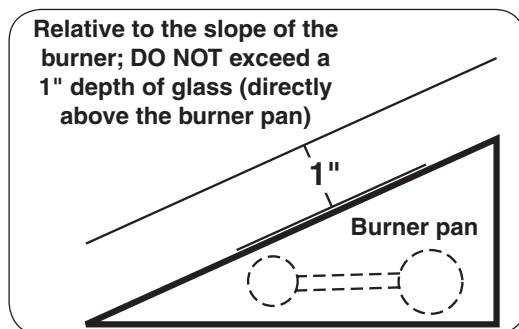
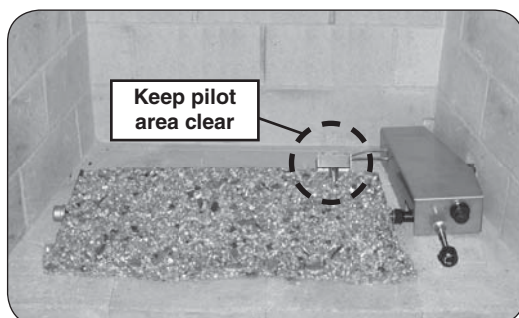

Fig. 9-4
Fig. 9-5
1. Pour the glass / gems directly on top of the granules and screen so that the burner pan is covered completely and evenly. Relative to the slope of the burner; DO NOT exceed a 1" depth of glass (directly above the burner pan) as shown in Fig. 9-4. DO NOT place glass directly under the pilot. See Fig. 9-5 and Fig. 9-6.